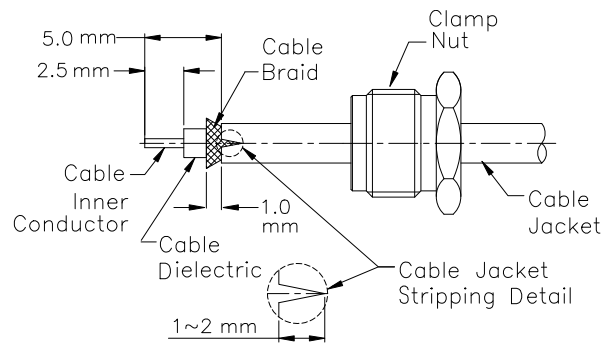

Figure 3
3.1. Preparing Cable (See Figure 3)
2. Trim the cable jacket, braid, dielectric, and inner conductor to the length given in Figure 3